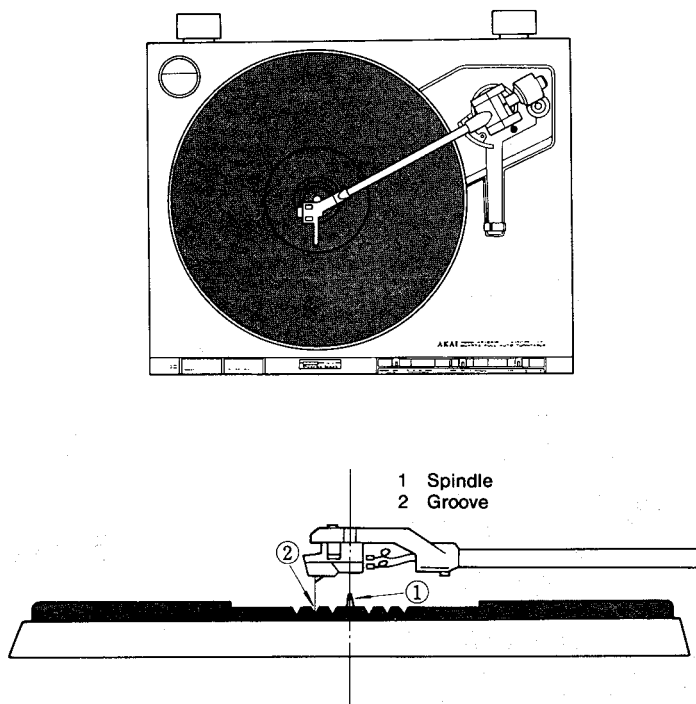

Fig. 5 Overhang Adjustment
2. OVERHANG (Not necessary for AP-Q310/C) (Refer to Fig. 5)